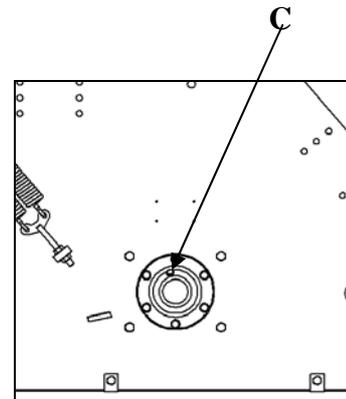

Fig.7
3. Rotor Bearing – Non Drive End. The housing is filled to the oil level plug C (Fig. 7): 0,25 l.